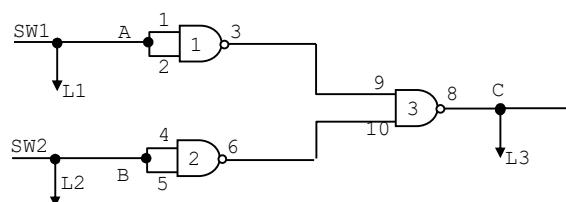
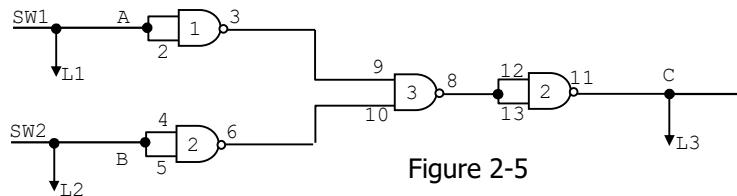

Figure 2-4
Figure 2-5
15. Connect the circuit shown in Figure 2-4. Monitor the inputs and output on LED indicators L1, L2, and L3. With SW1 (A) and SW2 (B), apply the input shown on Table 6. Record the output state corresponding to each set of inputs. Use positive logic.
16. Study Figure 2-4 and Table 6. What logic function is being performed? _____
17. Modify your circuit in Figure 2-4 by adding the fourth gate in the 7400 to the output as shown in Figure 2-5. Only the output change is shown. The rest of the circuit stays as in Figure 2-4.